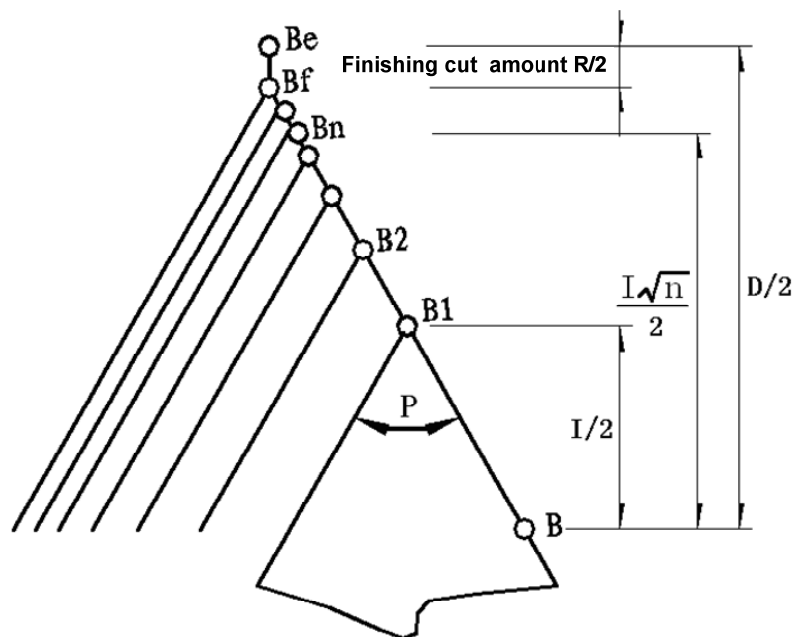

Fig. 4-46
The cut-in method is shown in Fig. 4-46:
**【Command ② explanation】**
- 1) Using G76 thread cycle cutting command group can complete the thread cutting with specified tooth height (total cut depth) by multiple thread roughing and finishing; when the thread angle defined by the command ① is not 0°, the cut-in point of thread roughing gradually moves to the thread tooth bottom from the thread tool top, so that the angle between two neighboring teeth is the specified thread angle.
- 4) If the thread angle defined by G76 command ① is not 0°, the difference between G76 command ② and G92 is: in the process of each thread cycle of G76 ② from the starting point to cut-in point, X, Z move simultaneously at first, and the thread axis reaches the cut-in point, and then the non-thread axis moves to the cut-in point independently; the other cut path is the same as that of G92 . See Fig. 4-46.